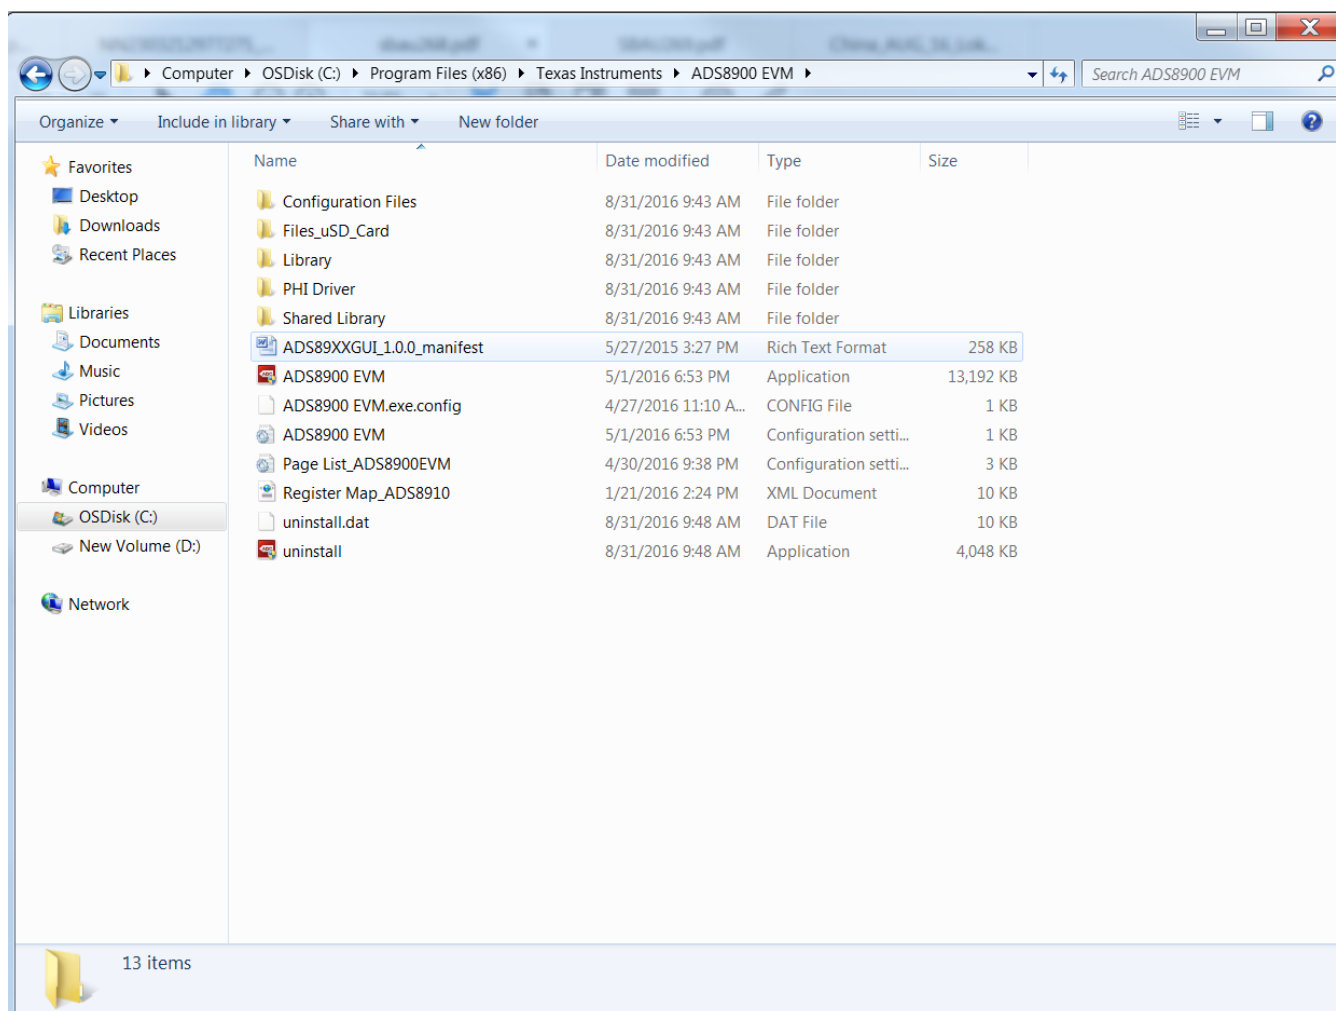

Figure 9. Launch the EVM GUI Software
3. Launch the ADS8900BEVM GUI software, as shown in Figure 9.